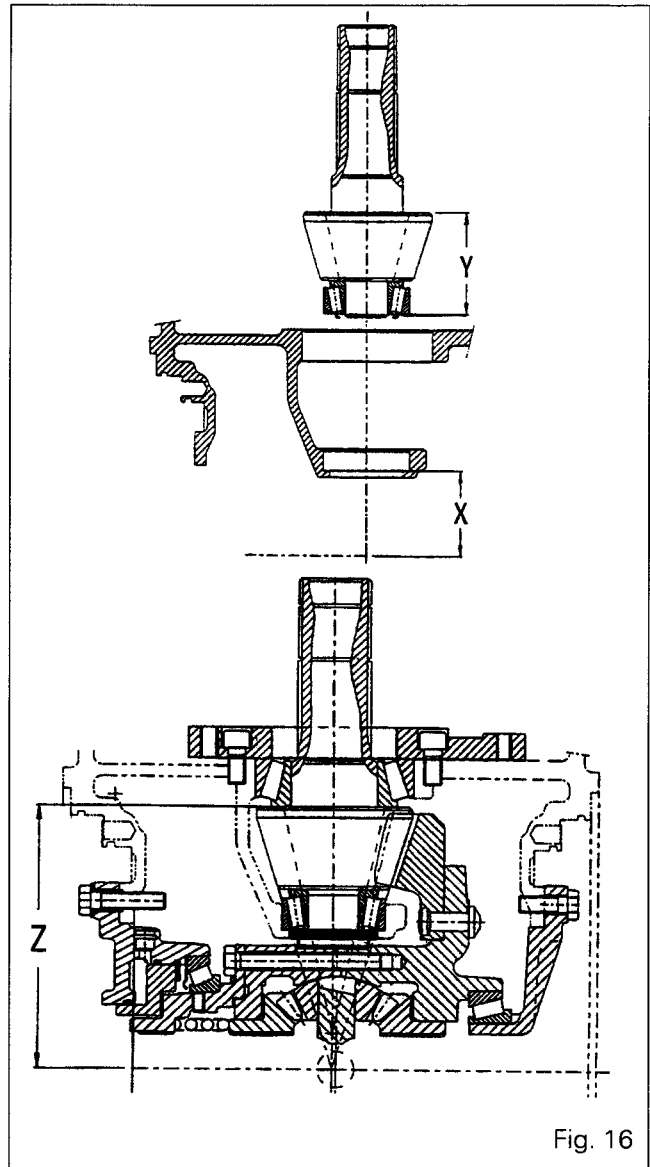

Fig. 16
76. Smear the oil deflector (41) with Loctite 648 and position it in the bore in the housing (Fig. 16).
77. For 6190 tractors only, determine the required thickness **E** of shims **[42]** (Fig. 16) by means of the following formula: